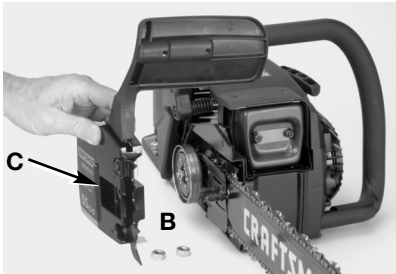
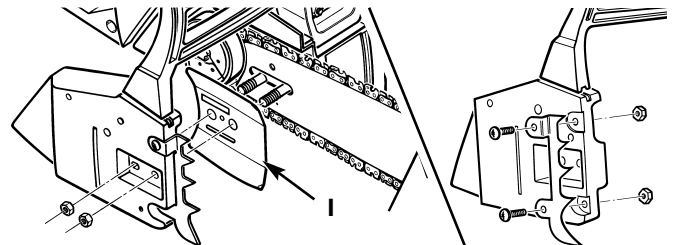
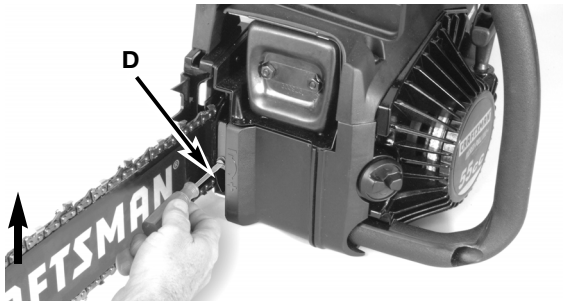

Fig. 22
Fig. 27
Fig. 28
2. Remove chain brake cover (C, Fig. 22) and outer guide bar plate (I, Fig. 27) by pulling straight out (Fig. 22).
6. Replace the outer guide bar plate (I) so the bent edges (top and bottom) are directed away from the chain (Fig. 27).
7. Install the Chain Brake® cover (Fig. 27). Make sure the chain does not slip off of the bar. Install the 2 bar retaining nuts hand tight and follow instructions in Saw Chain Tension Adjustment.
1. Loosen the bar retaining nut(s) (B, Fig. 27). Hold nose of guide bar up and turn adjustment screw (D) CLOCKWISE to increase chain tension. Turning screw COUNTERCLOCKWISE will decrease amount of tension on chain. Ensure the chain fits snugly all the way around the guide bar (Fig. 28).